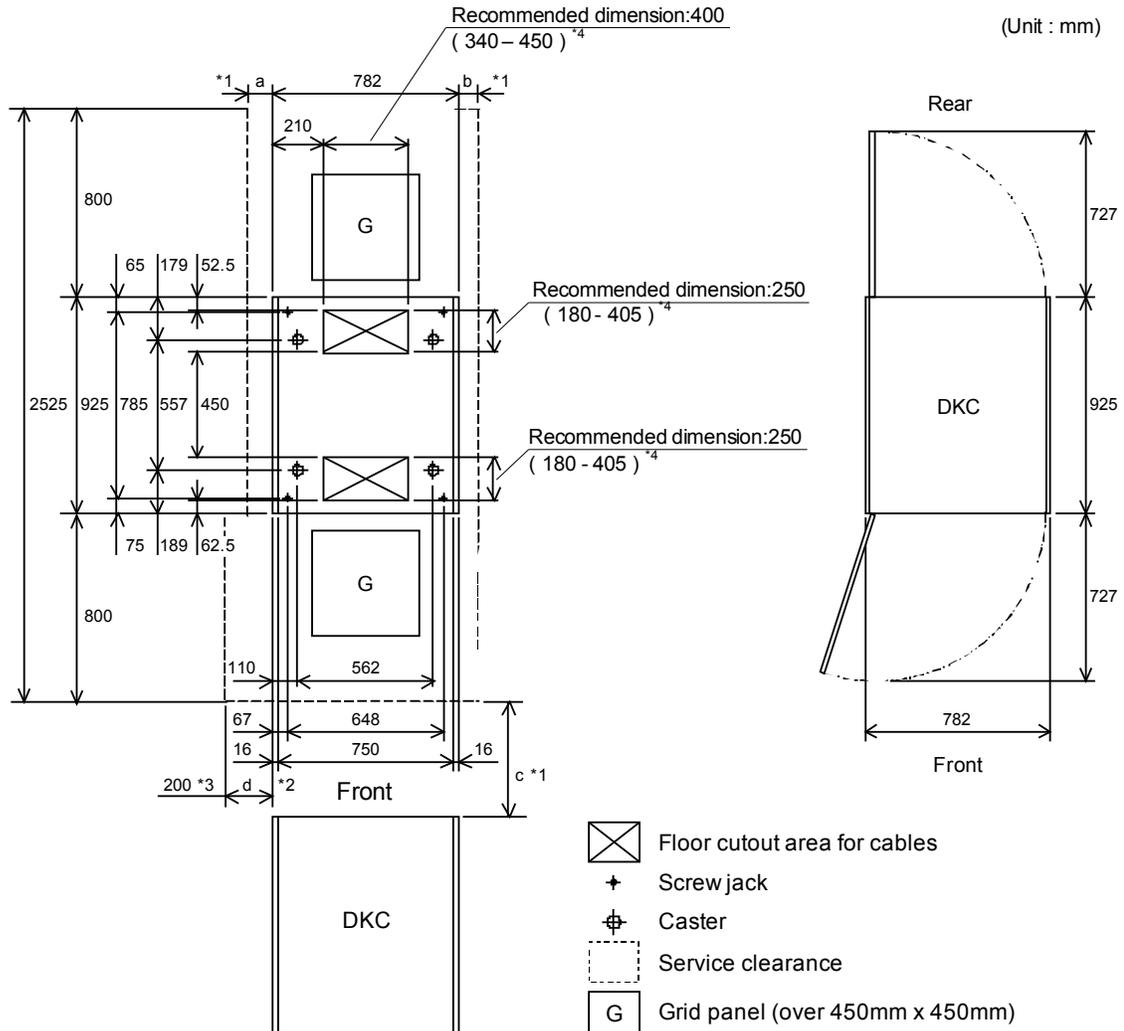

Figure 4.3 DKC Service Clearance and Floor Cutout
- Figure 4.3 shows the service clearance and floor cutout for one frame (DKC only, no DKUs). Table 4-4 shows the floor load rating requirements for this configuration.